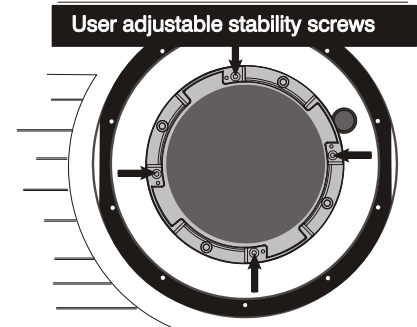

Figure 4.11. Adjustable Screws on Retaining Ring
- **Secure stability screws (optional):** For added stability, secure the adjustment screws provided on the lens retaining ring (see **Figure 4.11**). If you have installed a large zoom lens, one or more of the screws may be inaccessible—simply tighten those that are accessible. *NOTE: Recommended for heaviest lenses such as 0.73:1 and 1.2:1.*